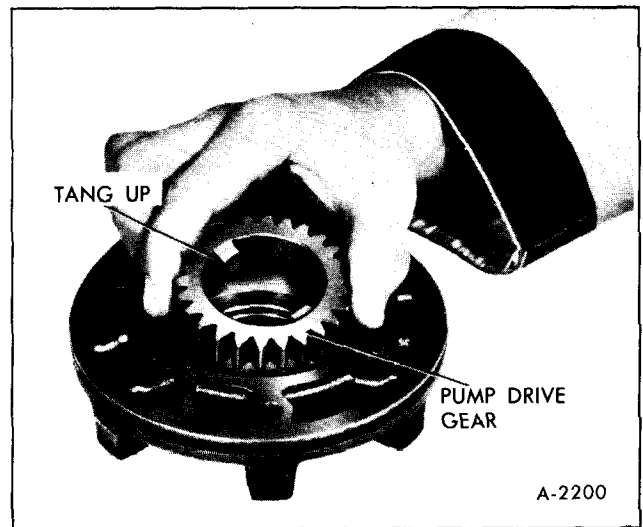

Figure 83—Installing Pump Drive Gear
4. Install drive gear into pump body with drive tangs up, Figure 83.